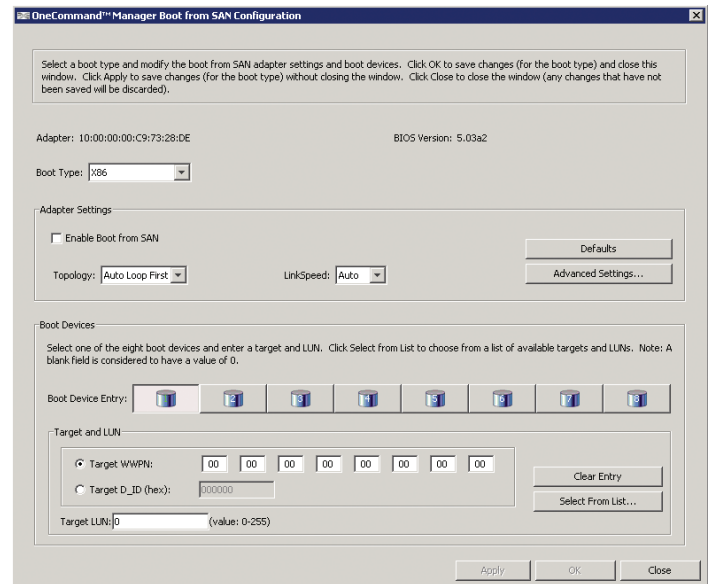

Figure 4 Online “Boot-from-SAN” configuration.
- Boot-from-SAN**—Many large-scale data centers have centralized storage not only for applications and data but also for operating system images. IT departments deploy boot-from-SAN as a way of standardizing and provisioning larger server pools. Emulex adapters not only support boot-from-SAN but can accommodate multiple boot paths to provide a high-availability solution. In addition, to streamline and expedite server provisioning, OneCommand Manager allows IT administrators to fully configure boot-from-SAN settings while the server is online, thereby pre-staging required changes ahead of the server's next maintenance window. Emulex's online boot-from-SAN configuration capability introduces greater speed and flexibility in server deployments, which helps to reduce deployment costs and improve SAN availability (see Figure 4).